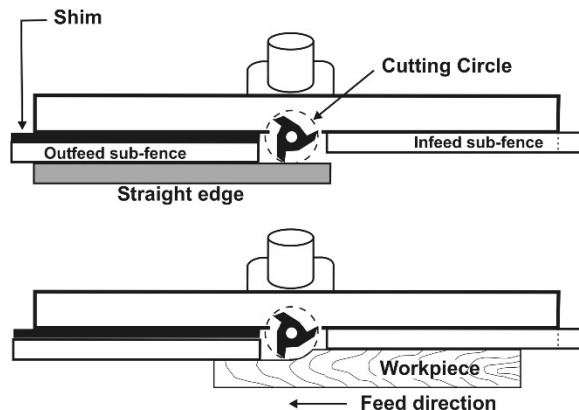

Figure 8-4
9. When the operation removes the entire edge of the work, for example in jointing or making a full bead, the shaped edge will not be supported by the outfeed sub-fence when both fences are in line. In this case, place a shim behind the outfeed sub-fence that is equal thickness to the depth of cut. To determine size of shim, position a straight edge against router bit and bring outfeed sub-fence against it. See Figure 8-4.